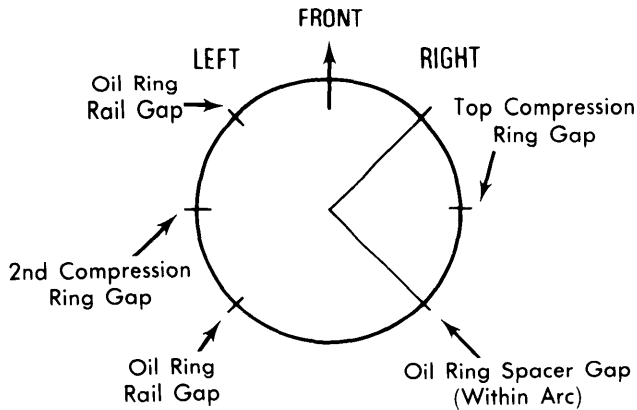

Fig. 4 Desired Ring Gap Locations
3) To check fit of rings in cylinder bore, insert ring in cylinder bore and push ring into bore 2" with head of piston and measure ring end gap with a feeler gauge. Before installing rings on pistons, ensure ring grooves are clean of carbon and inspect grooves for nicks or burrs. Install rings with gaps positioned as shown in Fig. 4.